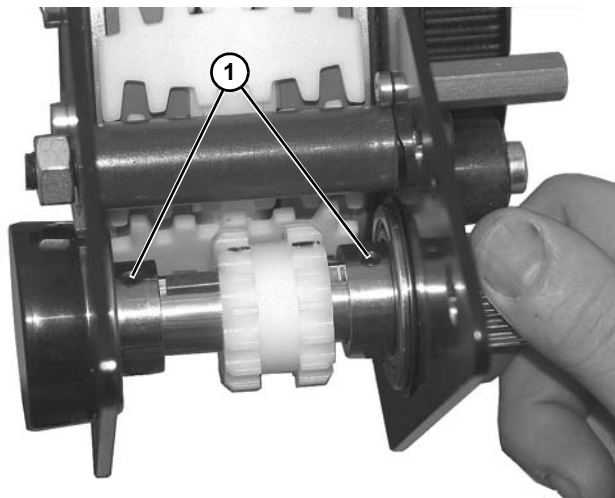

Figure 171
2. Secure drive shaft onto bearings with two set screws (**Figure 171, item 1**).